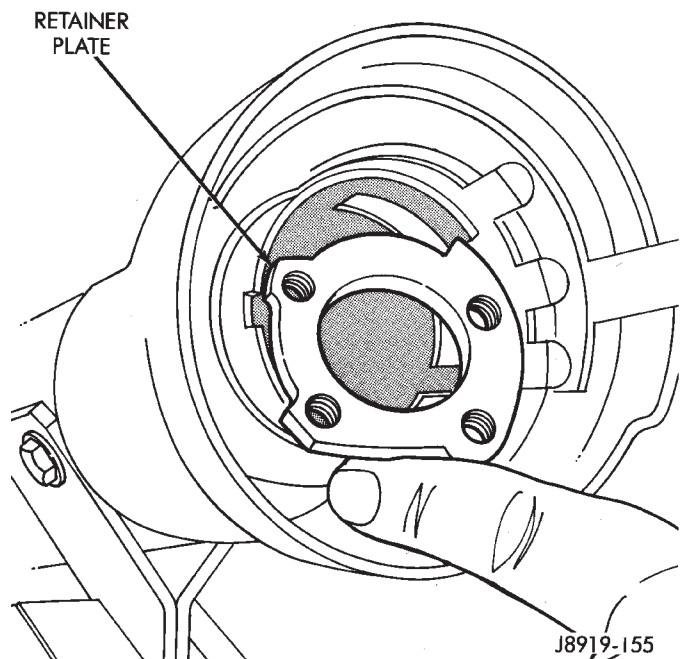

Fig. 19 Retainer Plate Removal
(44) Tilt the upper end of the retainer plate toward the lower end of the column, turn the plate counter-clockwise and remove it (Fig. 19).